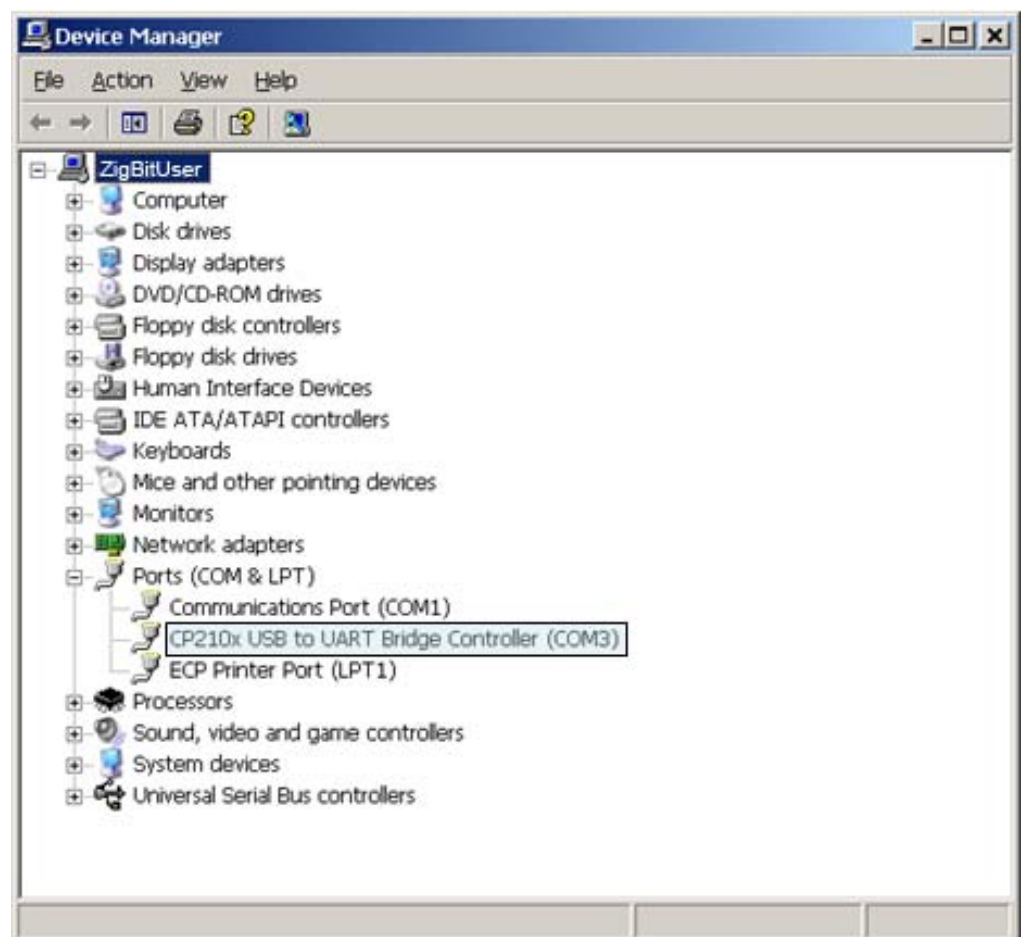

Figure 5. COM port drivers in the Windows Device Manager window
- Make sure that the driver is installed successfully and the new COM port is present in the device list. Open the Device Manager window shown in Figure 5: Start/Control Panel/System/Hardware/Device Manager.